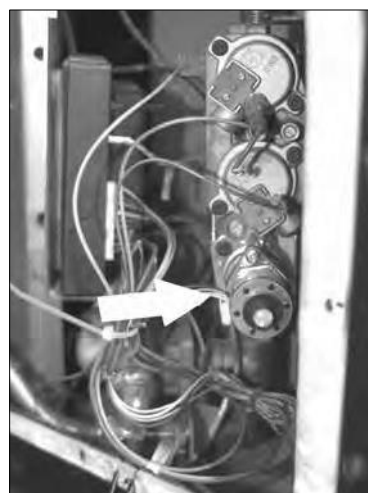

Figure 58: Modulator Screws.
14. Using a T-20 safety driver, remove the two (2) screws that hold the flame modulator from the gas valve (Figure 58).